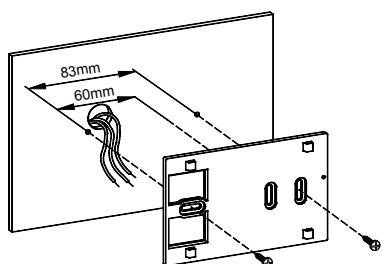

Fig. 5
- 5 Fix the plate to the wall, using the two screw seats with centre distances of 60 mm or 85 mm (use the supplied wall plugs and/or screws). Pass the wires through the rectangular openings (Fig. 5).